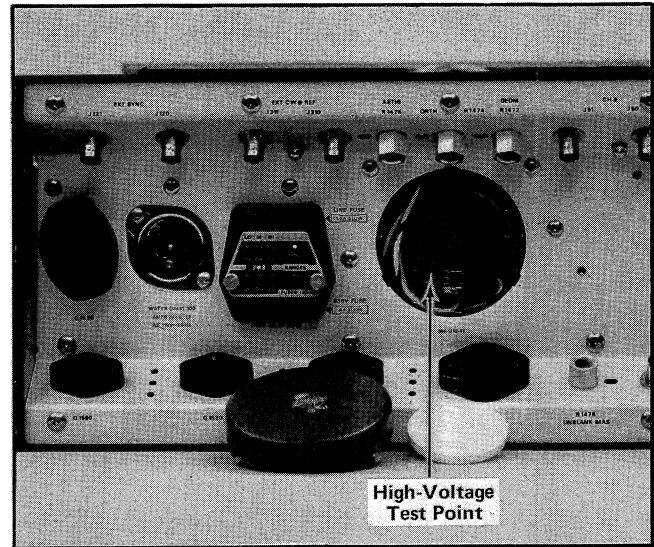

Fig. 6-4. High voltage test point location.
c. Connect a DC voltmeter between ground and the CRT socket terminal having a red-on-white wire attached to it (pin 2); see Fig. 6-4.